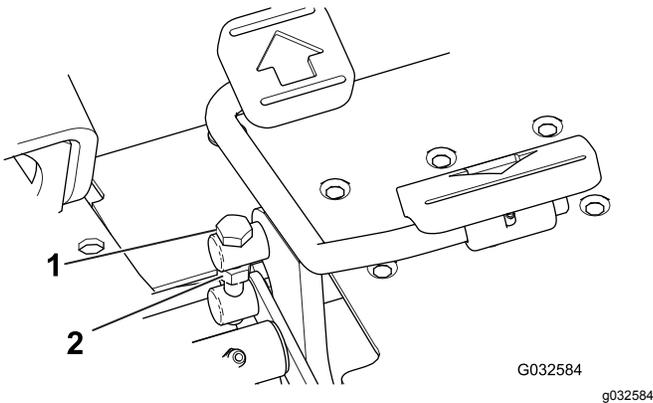

Figure 43
1. Loosen the jam nut on the trunnion bolt on the side of the traction pedal (Figure 43).